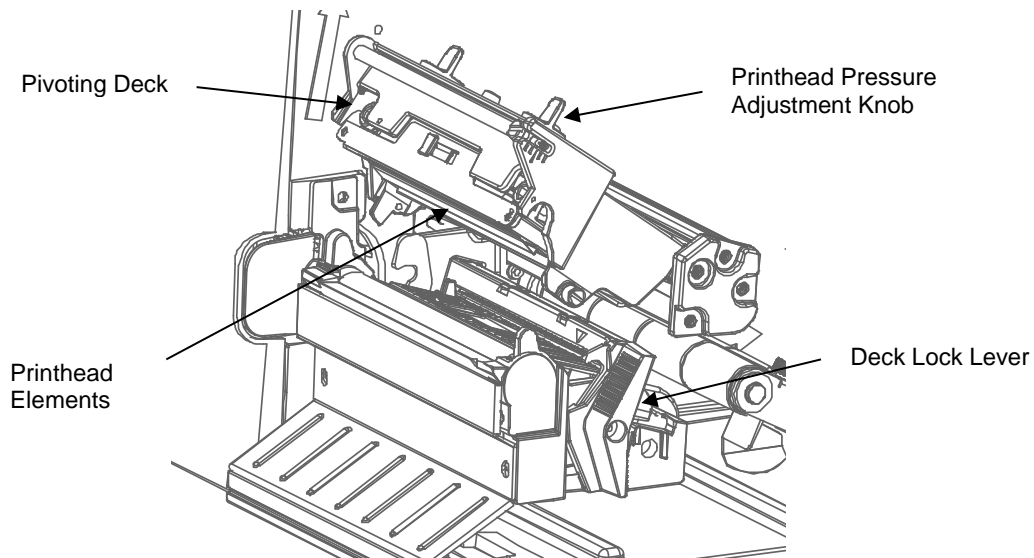

Figure 19 Opening the Pivoting Deck
3. Close the pivoting deck and rotate the deck lock lever fully counterclockwise. (Figure 19.)